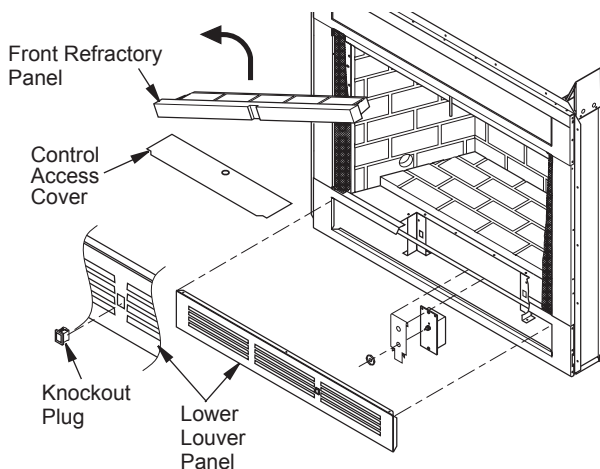

Figure 1 - Accessing Blower Compartment (Controls Not Shown for Clarity) B-Vent, Wood and Vent-Free Models
The BK blower can be installed in wood burning, B-vent and vent-free model fireplaces. Both the BK and BKT blowers can be installed in direct-vent model fireplaces. Blowers are installed by accessing the blower compartment through the lower louver panel or, on some models, through the control access cover under the front refractory panel (see Figure 1). The lower front louver panel can be removed easily, see *Removing Louver Panel*, page 3 for instructions.
For models other than direct vent, remove panel or stamped face louver by snapping out the front with a flat blade screwdriver (see Figure 1, page 2). Use caution not to scratch any surfaces. These panels can also be removed by inserting fingertips between slots and gently pulling out. **DO NOT FORCE.** The panels are actually held in place by means of a retention dimple embossed on the edge of the panel. To reinstall, place louver into cavity and push gently.
- Remove knockout plug from louver panel by depressing top and bottom retaining clips (see Figure 1, page 2).
3. Remove knockout plug from louver panel by depressing top and bottom retaining clips (see Figure 1, page 2).